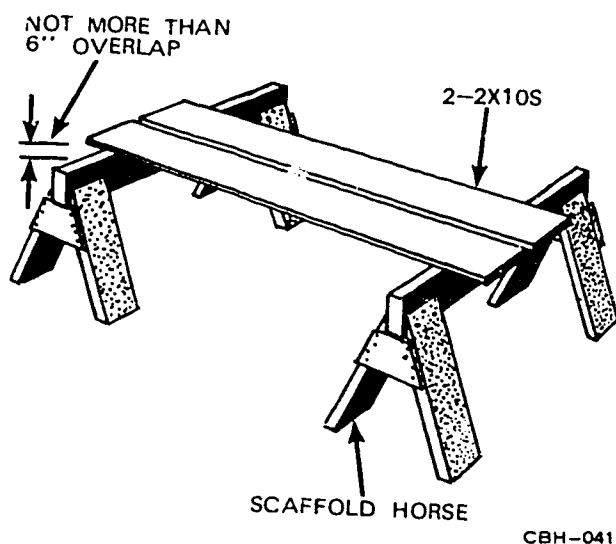
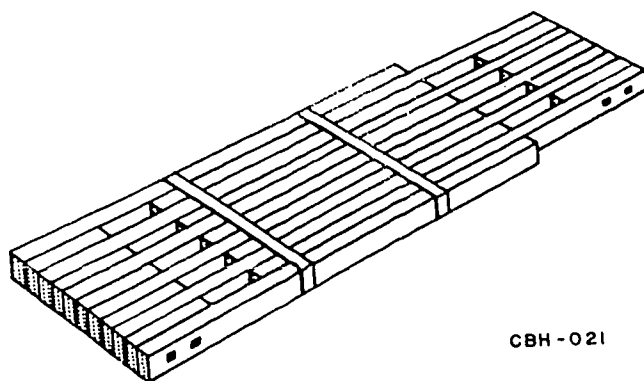

Figure 4-3. Scaffold horse.
Figure 4-4. Extension plank.
**Types of Scaffolds.** A pair of scaffold horses with scaffold boards placed across them make a useful scaffold (fig. 4-3). It is erected quickly and can be moved easily as the work progresses, but its height is limited to the height of the horses. Always use two boards, at least 1½ inches thick and 9½ inches wide (2 x 10s). You can use an extension plank, as shown in figure 4-4, in place of the scaffold boards.